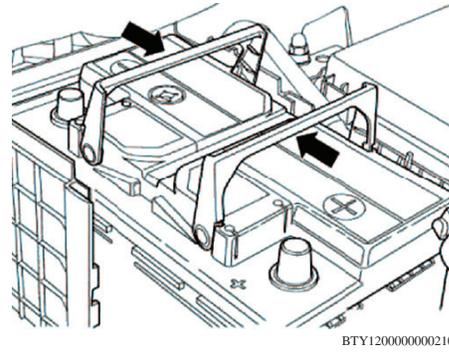

Fig. 5 Battery removal
11. Fold handles upward (arrows) and lift out battery, **Fig. 5**.